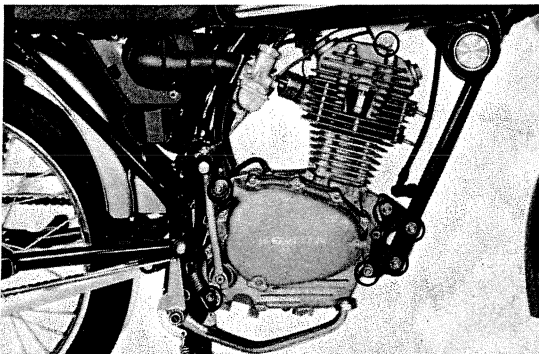

Fig. 30 ① Engine hanger bolts
- 9) Remove nuts from the engine hanger bolts, raise engine toward the rear, and remove engine bolt while supporting the engine. (Fig. 30)